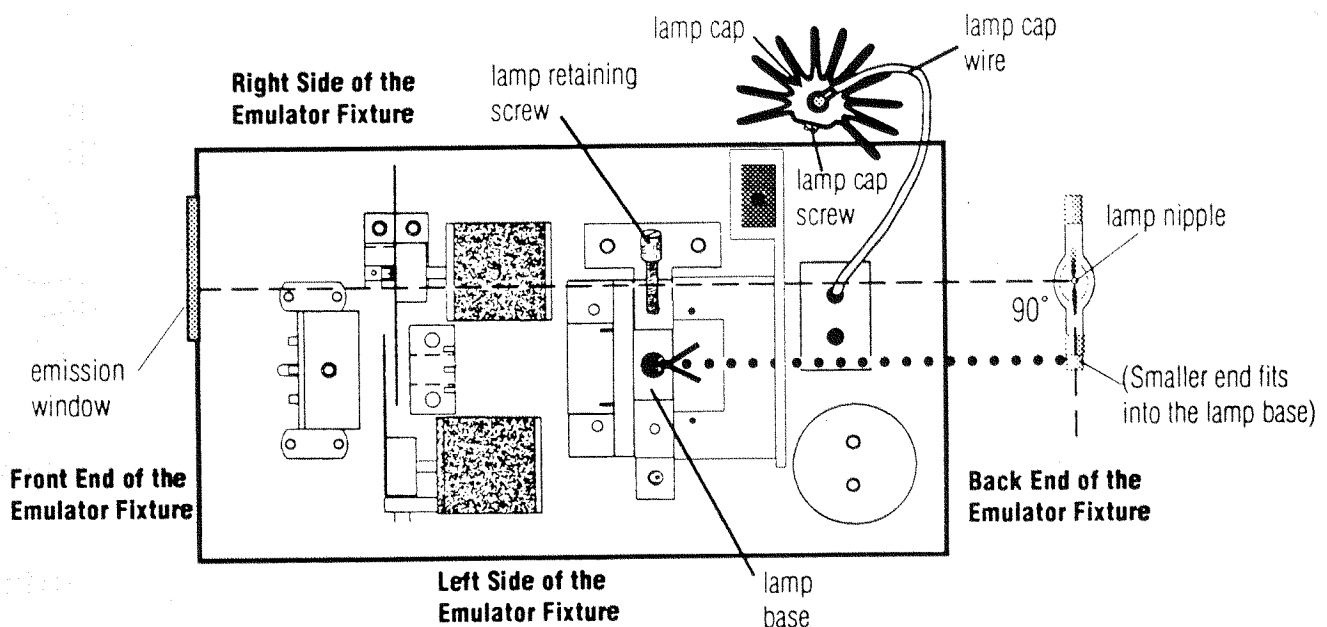

Figure 2.7 Positioning the xenon Lamp
10. Position the *lamp nipple* so that it is at a 90° angle to the *emission window* on the front panel of the fixture. (See Fig. 2.7) Proper placement of the lamp ensures that the lamp nipple will not obstruct or distort the light output of the xenon lamp.
11. Loosen the *lamp retaining screw* and insert the smaller end of the xenon lamp into the *lamp base*. (See Fig. 2.7)
12. Holding the xenon lamp in place, tighten the *lamp retaining screw* (See Fig. 2.7) by hand so that it fits securely. It is possible to safely tighten the lamp retaining screw to **10 inch pounds** without crushing the end of the lamp.
13. Loosen the *lamp cap screw*. (See Fig. 2.7) Place the *lamp cap* on top of the xenon lamp. Position the *lamp cap* so that the star-shaped points face towards the right side of the fixture (when you are looking into the fixture from the back end). (See Fig. 2.7) Tighten the *lamp cap screw* finger-tight. This screw can be safely tightened to **6 inch pounds**.